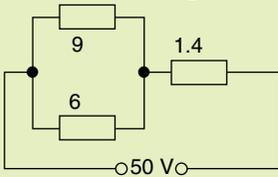

Figure 18
1. For the circuit of Figure 18, find